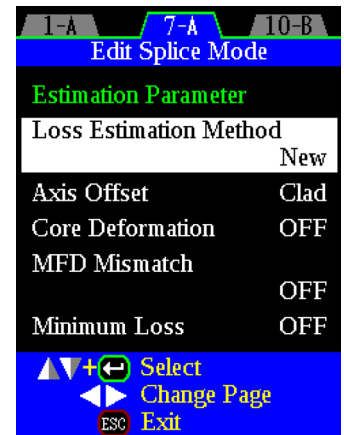

Figure 11 — Loss Estimation
8. Proceed to the estimation settings in pages 7-A through 8-A. FSM-100M/M+ users will not have page 8, and FSM-100P/P+ users who have selected IPA, IPA2, or End-View can navigate to page 8-B/C (**Figure 11**) to further view and adjust estimation settings.